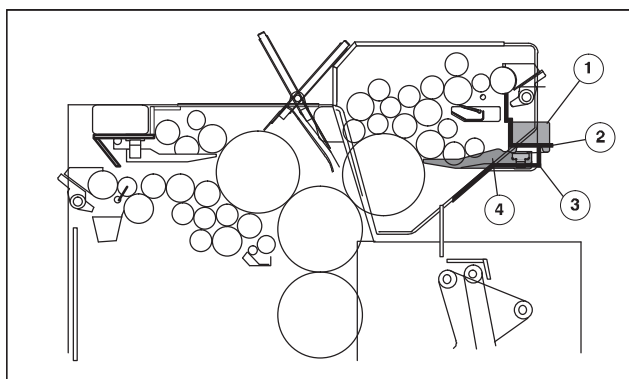
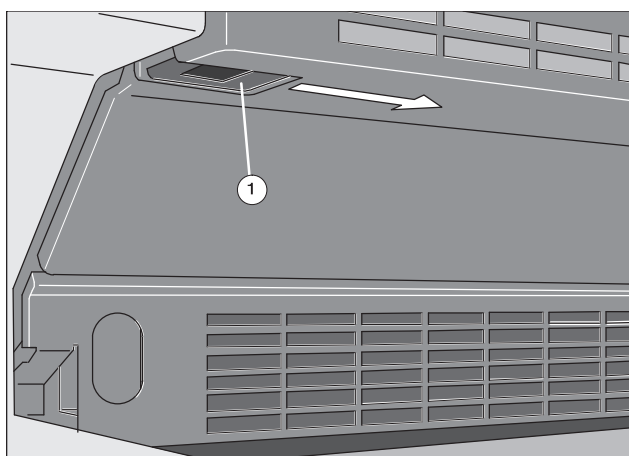

Fig. 19 Removing the dampening solution pan
Fig. 20 Guard under the dampening unit: lock
Remove the dampening solution pan (Fig. 19/4) **before** you put the dampening unit to **the washing position**.
1. Remove the dampening solution container (Fig. 19/1) in an upward direction.
2. Swing up the guard over the dampening unit (Fig. 19/2).
3. Push both locks on the guard under the dampening unit (Fig. 19/3) on OS (Fig. 20/1) and DS towards the middle of the press and swing down the guard.